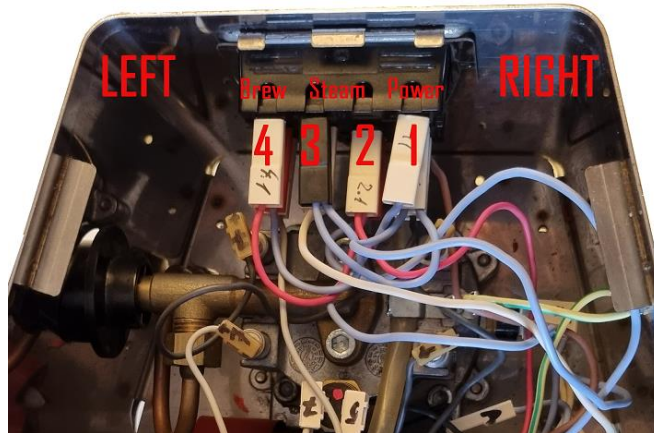

Fig. 3.1
- Starting from the buttons panel remove the wires from left to right using a straight screwdriver (looking from behind : from brew button to power button, from 4 to 1) (fig. 3.1)